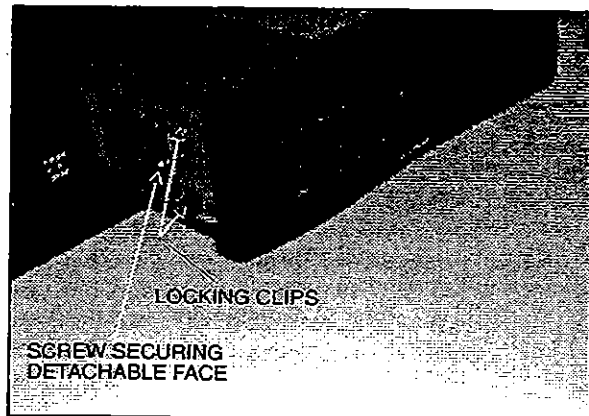

Figure 2
3. To unfasten the radio from its support, push in the four locking clips with pens (refer to fig. 2).
5. If you need to remove face, remove screw securing detachable face (refer to fig. 2).